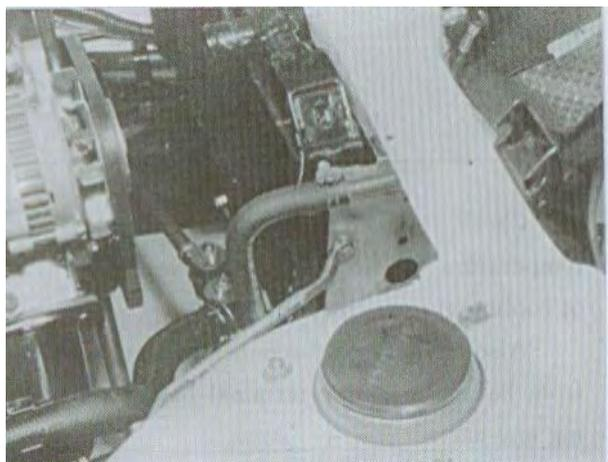

FIG.6-10 (see fig.7-11 of service manual for HFJ6351B)
- (4) Remove radiator shroud securingbolts and cooling fan securing bolts. (FIG.6-10).